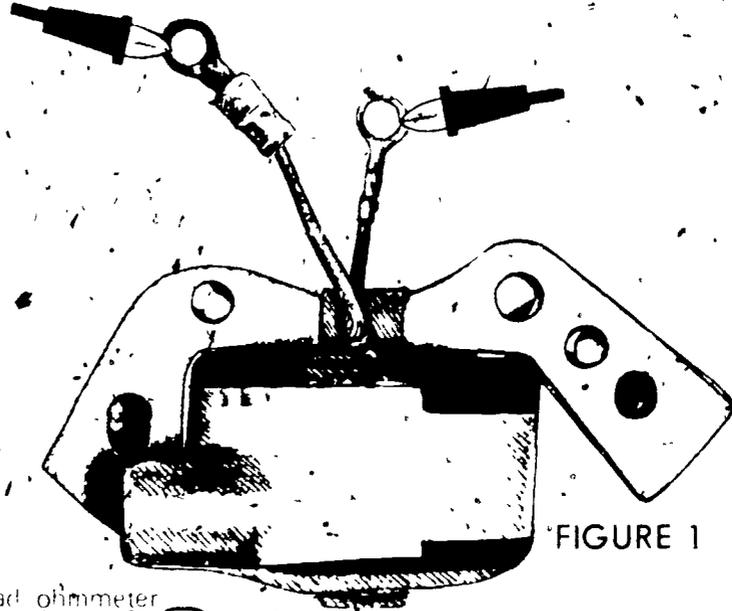

FIGURE 1
- a. Following instructions for tester, connect leads (Figure 1)